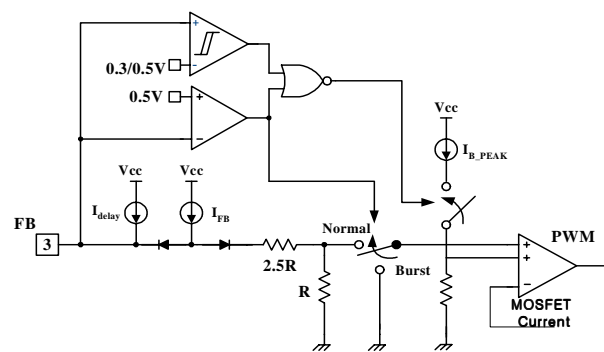

Figure 8. Circuit for Burst operation
5. Soft Start : The FPS™ has an internal soft start circuit that increases the feedback voltage together with the Sense FET current slowly after it starts up. The typical soft start time is 14msec, as shown in figure 8, where progressive increments of Sense FET current are allowed during the start-up phase. The pulse width to the power switching device is progressively increased to establish the correct working conditions for transformers, inductors, and capacitors. The voltage on the output capacitors is progressively increased with the intention of smoothly establishing the required output volt-